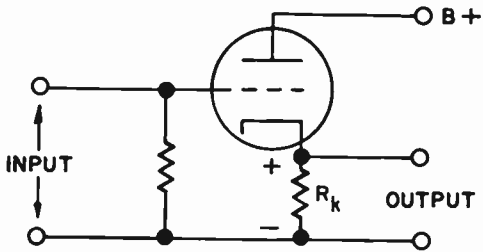

FIG. 9-29. A CATHODE FOLLOWER AMPLIFIER.
**3 CATHODE FOLLOWER AMPLIFIER.** A circuit of a cathode follower amplifier is shown in Fig. 9-29. The significant feature of the cathode follower is that the output is obtained at the cathode of the tube. The term "cathode follower" comes from the fact that the output follows the input voltage. There is no phase difference between the output and input as there is in the conventional amplifier. The reason for this is as follows: When the signal applied to the input goes positive, the plate current, which flows through the cathode resistor, increases. This increases the voltage across Rk